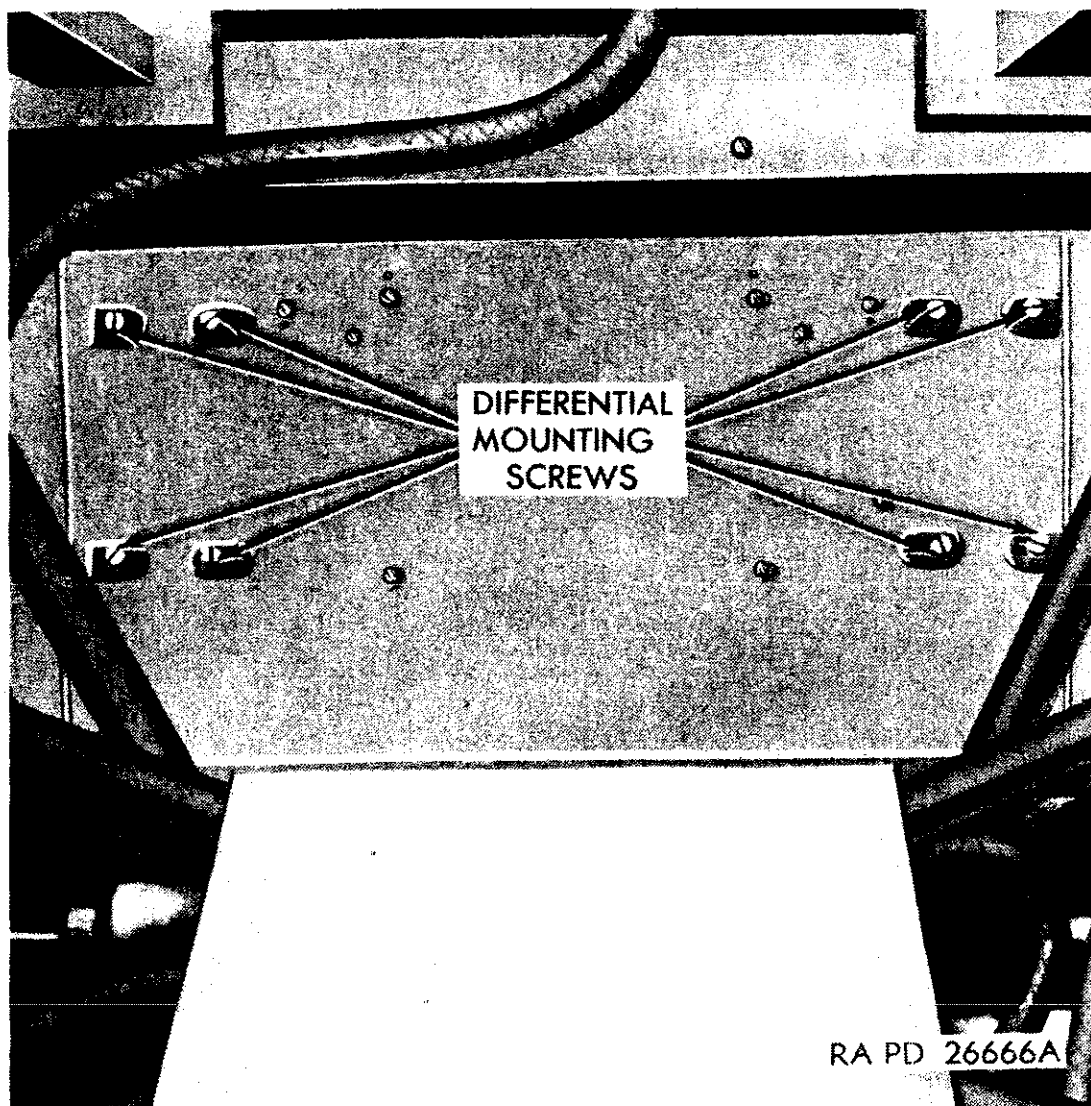

Figure 63. Differential mounting screws.
- (1) Loosen the differential mounting screws (fig. 63) located under the seat. Open the cover plates of the main base.